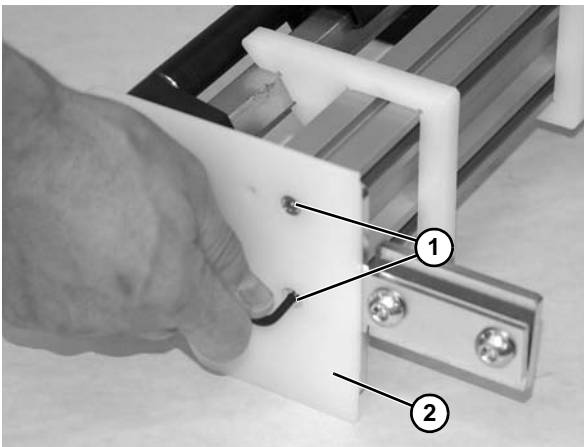

Figure 93
5. Remove two low head cap screws (**Figure 93, item 1**) and nose bar spacer (**Figure 93, item 2**). Repeat procedure on opposite side. Check nose bar spacer on each side for wear. If worn, replace.